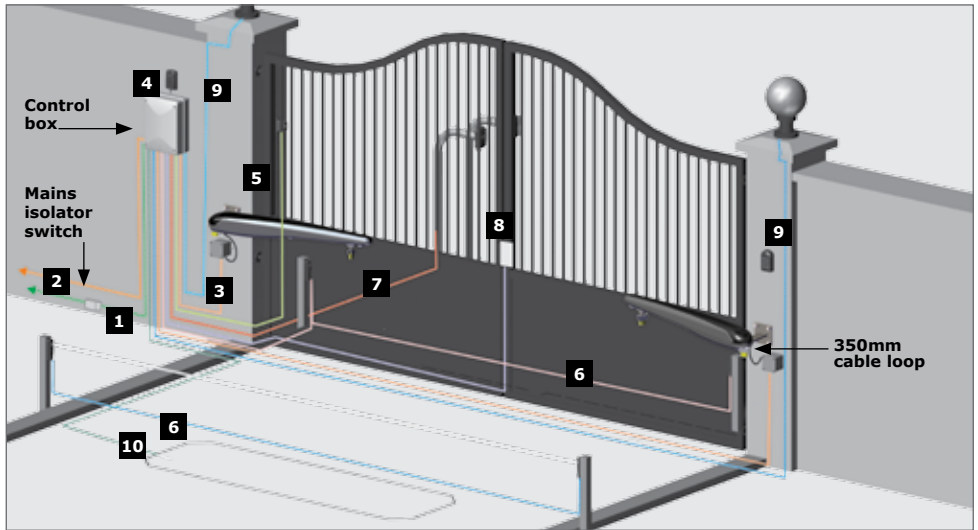

FIGURE 17. CABLING REQUIREMENTS
- Leave a 350mm long loop in the cable close to the operator. See Figure 17